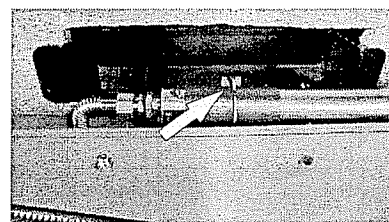

FIGURE 10D
5. **MODEL #936 DV:** To position the adjustable venturi collar into its mounting bracket, gently push the bracket back far enough to slip the flange on the collar into the slot on the bracket. Figure 10D.